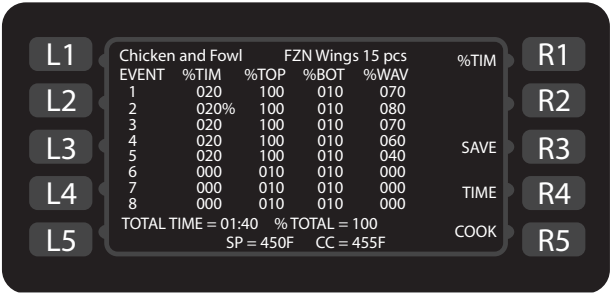

Figure 30: Recipe Edit Screen
5. From the “Recipe Edit” screen (Figure 30), edit the food group name:
1. From the Recipe Edit screen (Figure 30), press the Down key to move the cursor to the desired “Event Setting” field.
- NOTE: To help make navigation easier, the currently-selected field will be displayed in the top-right corner of the display. In Figure 30, the cursor is in the “% Time” column.